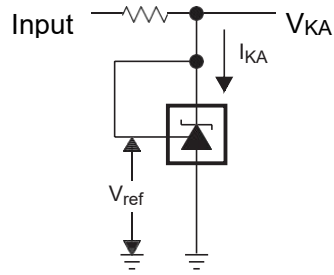

图 20  $V_{KA}=V_{re}$  的测试电路
| V ref                     | Reference voltage   | See Figure 20   | V KA = V ref , I KA = 10 mA                     |  |      | mV   |      |
| V I(dev)                  | Deviation of reference input voltage over full temperature range (1) | See Figure 20   | V KA = V ref ,I KA = 10 mA                  | SOT-23 and L432 devices                    | 14   | 34   | mV   |
| I min                     | Minimum cathode current for regulation  | See Figure 20   | V KA = V ref   |  |      | mA   |      |
| z KA                      | Dynamic impedance (2)  | See Figure 20   | V KA = V ref , f ≤ 1 kHz, I KA = 1 mA to 100 mA |  |      | Ω    |      |
| V ref                       | Reference voltage   | See Figure 20   | V KA = V ref , I KA = 10 mA                     |   |      | mV   |      |
| V I(dev)                    | Deviation of reference input voltage over full temperature range (1) | See Figure 20   | V KA = V ref , I KA = 10 mA                     |   |      | mV   |      |
| I min                       | Minimum cathode current for regulation  | See Figure 20   | V KA = V ref   |   |      | mA   |      |
| z KA                        | Dynamic impedance (2)  | See Figure 20   | V KA = V ref , f ≤ 1 kHz, I KA = 1 mA to 100 mA |   |      | Ω    |      |
| $V_{\text{ref}}$                                     | Reference voltage   | See Figure 20   | $V_{\text{KA}} = V_{\text{ref}}, I_{\text{KA}} = 10 \text{ mA}$   |  |      | mV            |      |
| $V_{\text{I(dev)}}$                                  | Deviation of reference input voltage over full temperature range (1) | See Figure 20   | $V_{\text{KA}} = V_{\text{ref}}, I_{\text{KA}} = 10 \text{ mA}$   |  |      | mV            |      |
| $I_{\text{min}}$                                     | Minimum cathode current for regulation  | See Figure 20   | $V_{\text{KA}} = V_{\text{ref}}$  |  |      | mA            |      |
| $ z_{\text{KA}} $                                    | Dynamic impedance (2)  | See Figure 20   | $V_{\text{KA}} = V_{\text{ref}}, f \leq 1 \text{ kHz}, I_{\text{KA}} = 1 \text{ mA to } 100 \text{ mA}$ |  |      | $\Omega$      |      |